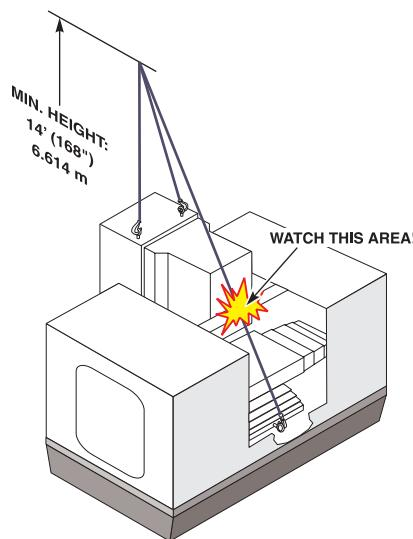

Fig. 1.9-5 VF-0/1/2 lifting positions.
5. Attach the lifting chain and hooks to the lifting points as shown in Figures 1.9-5 and 1.9-6, ensuring that the chain does not come in contact with the top door beams or rub against any part of the machine's sheetmetal enclosure.